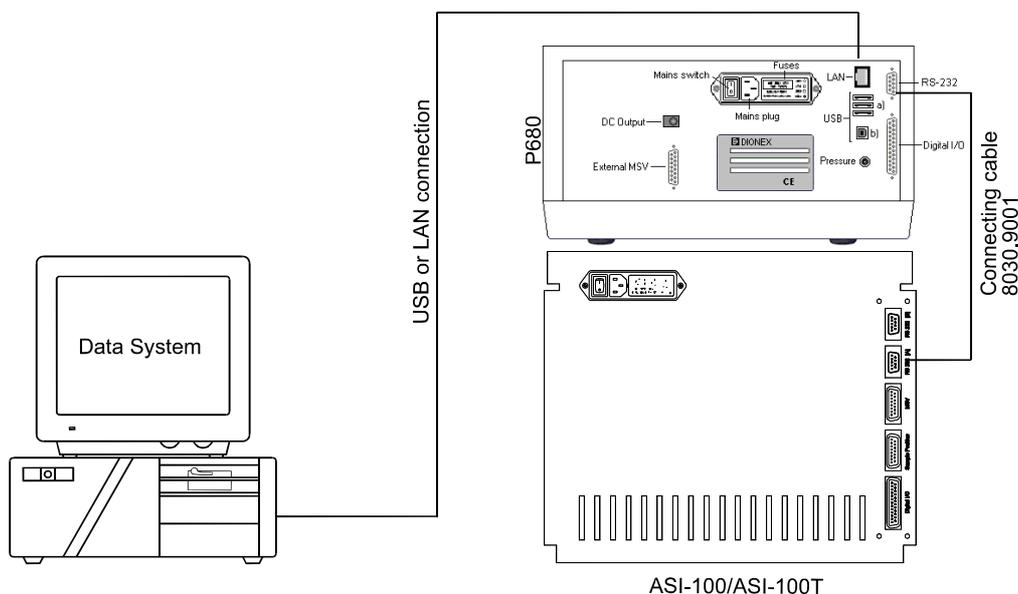

Fig. 11: Autosampler connection to the data system via a P680 pump
- To connect the autosampler to a pump of the P680 series (→ Fig. 11). The required connection cable (part no. 8030.9001) is provided in the accessories kit. In this case, the autosampler is connected to Chromeleon via the pump.